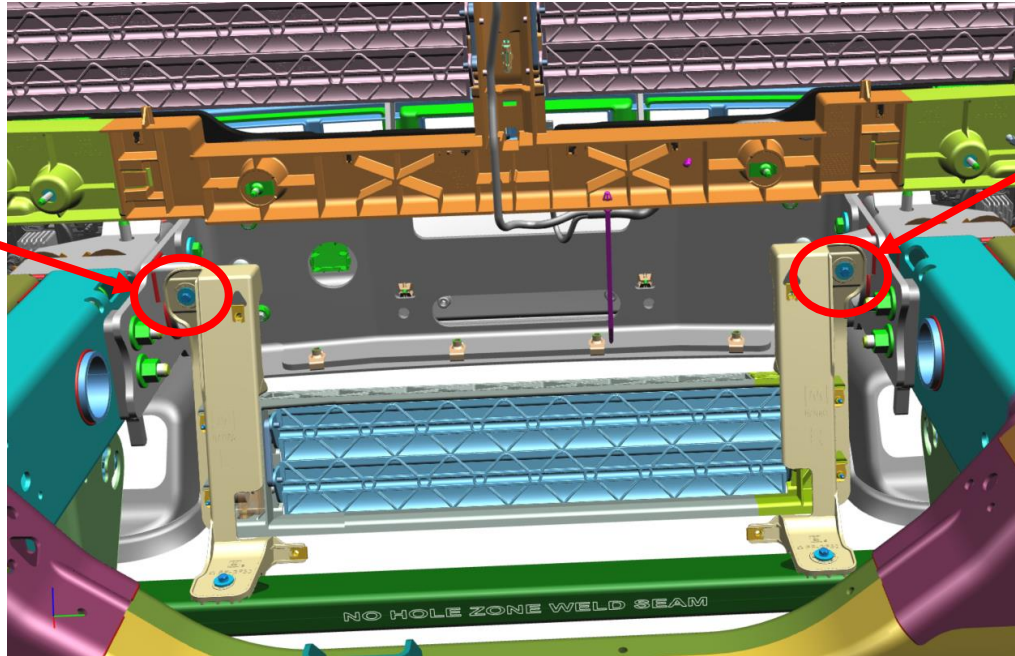

Figure 11 – Backside AEV Chevy Front Bumper and Shutter-Baffle
- b. Install [1] M4 Bolt (M7 Socket) per side – Fig. 11